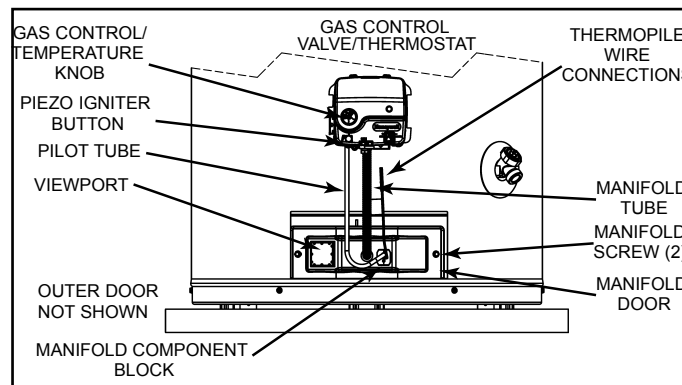

FIGURE 23
- Remove the screws (1/4" nut driver) securing the manifold/burner assembly to the combustion chamber. See Figure 23.